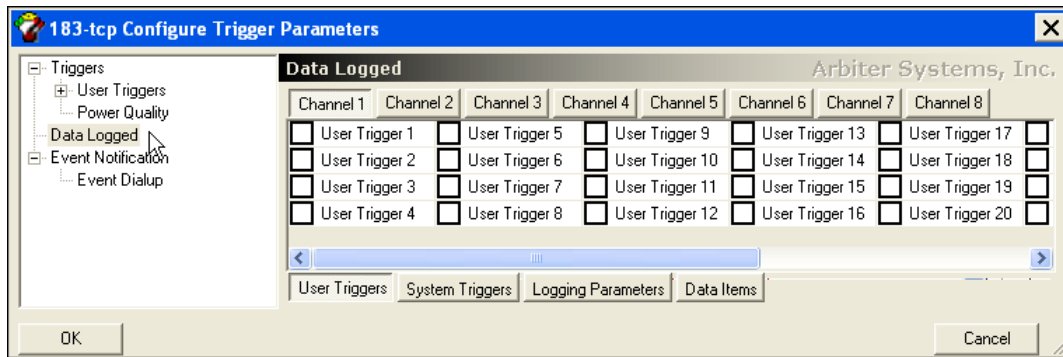

Figure 8.5: Configure Data Logged Screen
1. In the Configure Trigger Parameters window select Data Logged. See Figure 8.5.